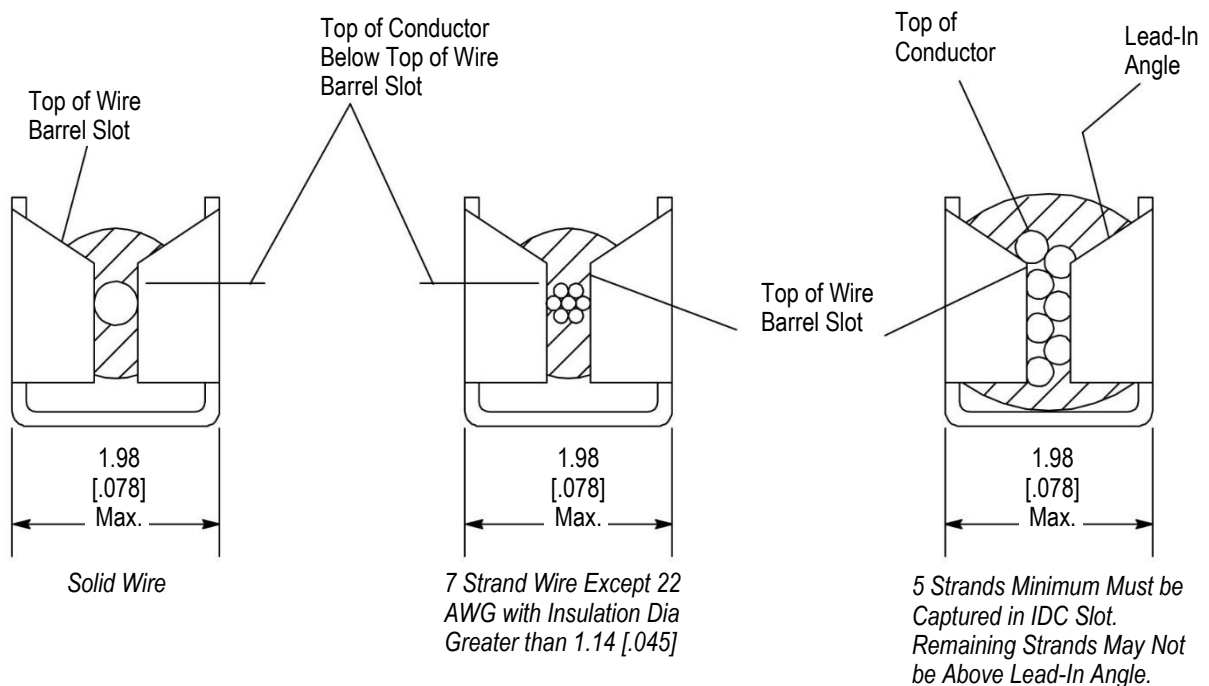

Figure 5
1. Terminated conductors shall meet the requirements in Figure 5.